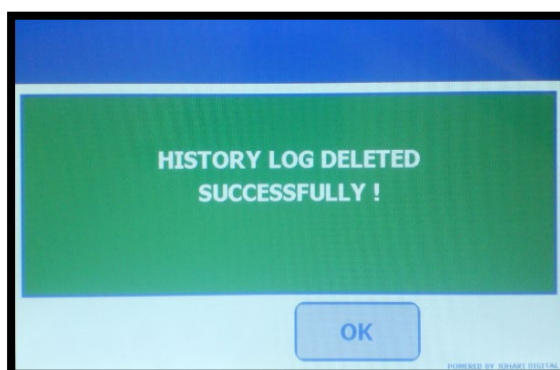

Figure V-40: Purge Successful Screen
10. The FP-24 5G prompts for "HISTORY LOG DELETED SUCCESSFULLY?". Press [OK] to return to the previous screen (Figure V-40).